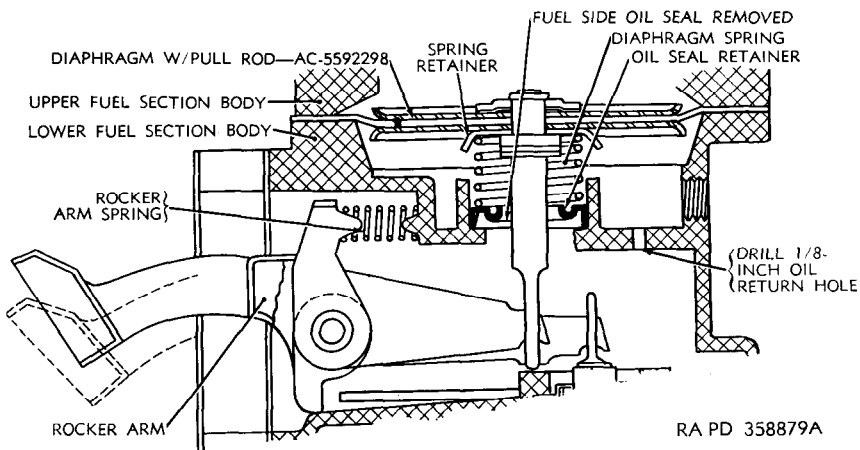

Figure 48. Sectional view of lower fuel section body of fuel pump showing oil return hole.
- (3) Remove the two screws securing the fuel and vacuum pump, rocker arm link spacer, and gaskets to the crankcase and remove the parts.
b. Modification of Fuel Pump (fig. 48). To minimize premature failures of fuel pumps caused by excessive pressures within the fuel pump and the trapped oil in the lower section of the upper body, modify the pump as described in (1) through (8) below.
- (1) Remove machine screws and lockwashers which secure the flanges of the upper and lower section bodies.
- (4) Drill a $\frac{1}{8}$ -inch hole in deck of body (fig. 48) to act as an oil return and pressure relief hole. Metal clips resulting from the drilling should be blown from the fuel pump with compressed air.
- (5) Install new oil seal and original retainer when using fuel pump repair kit G740-7375384; if fuel pump repair kit G758-8329981 is used, install oil seal retainer G758-8329706.
- (6) Install diaphragm spring and spring retainer.
- (7) Install new diaphragm with pull rod after soaking it in clean kerosene. While holding the diaphragm flange in the upward position, insert the pull rod through the spring retainer, spring, and oil seal retainer in the lower fuel section body. The flat of the pull rod must be at right angles to the fuel link. Hook the pull rod to the short (outer) fuel link.
- (8) Aline the upper fuel section body on the lower fuel section body in accordance with marks scribed in (1) above. Push on rocker arm until diaphragm is flat across body flange. Install original screws and lockwashers until screws just engage lockwashers. Push rocker arm in a full stroke and tighten screws securely.
(fig. 48)
- (a) Bend fuel and vent lines upward, at fuel tank, so that vent line will locate above the fuel line (fig. 48).
- (1) *Removal.* Unscrew the nuts (W and Y) on the ends of the fuel line (X), from the elbow on the pump, and the elbow on the carburetor assembly, and remove the line.
- (2) *Installation.* Position the fuel line (X) between the fuel and vacuum pump and the carburetor assembly. Screw the nuts (W and Y) on the ends of the line into the elbow on the carburetor and the elbow on the fuel and vacuum pump respectively.